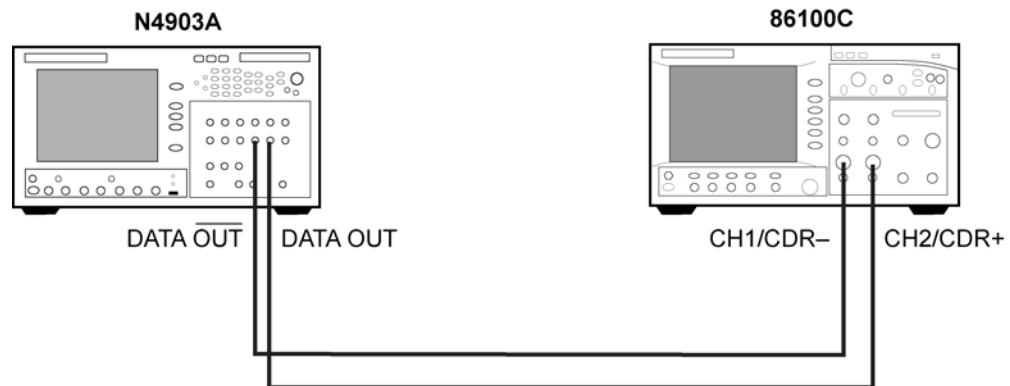
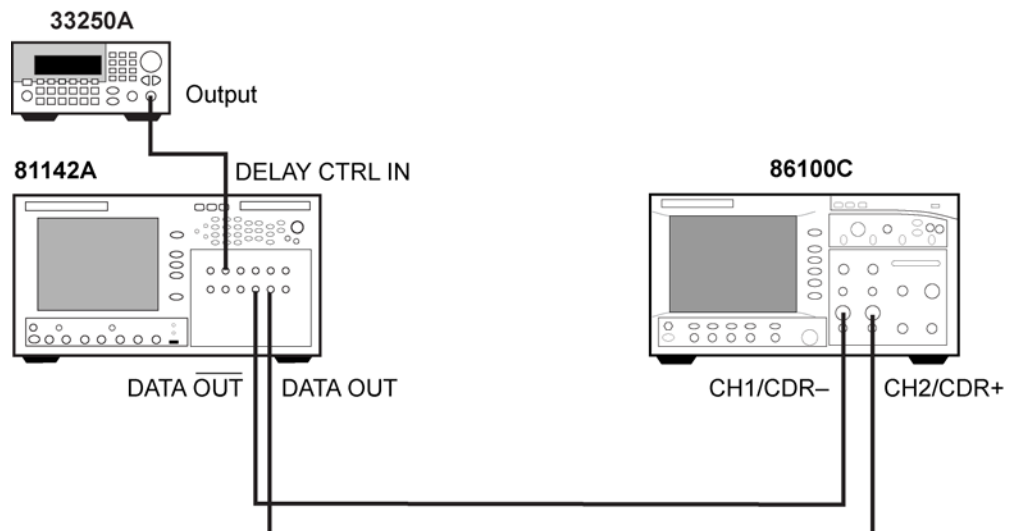

Figure 4-12. N4903A Connected to the 86100C
Figure 4-13. Alternate Setup Using Separate Data and Jitter Sources
- 1 Connect the source instrument directly to the 86100C. Do not connect the DUT at this time. Figure 4-12 shows the connection if you are using an N4903A. If you are using separate jitter and data sources, connect the equipment as shown in the example of Figure 4-13. Connect the source's output signal to the appropriate on the 86100C clock recovery input as described in “Clock Recovery Inputs” on page 4-12.